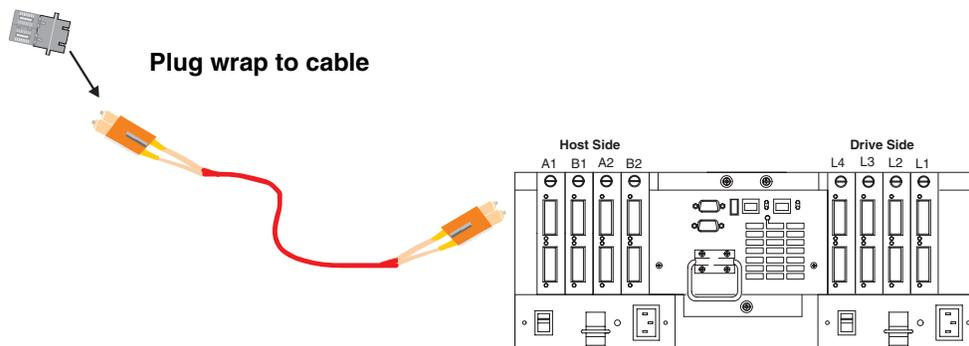

Figure 122. Install Wrap Plug
3. Insert the wrap plug from your kit into the female-to-female converter. See Figure 122.